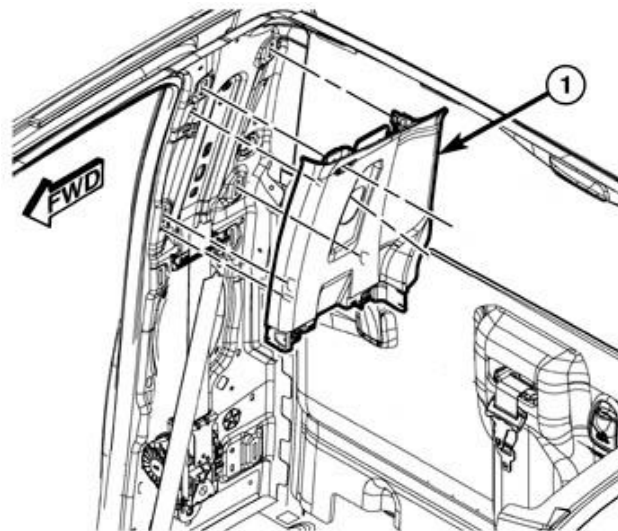

Figure 6 – B-Pillar Upper Trim Panel
- Release the retaining clips and remove the B-pillar upper trim panel (1) (Figure 6).